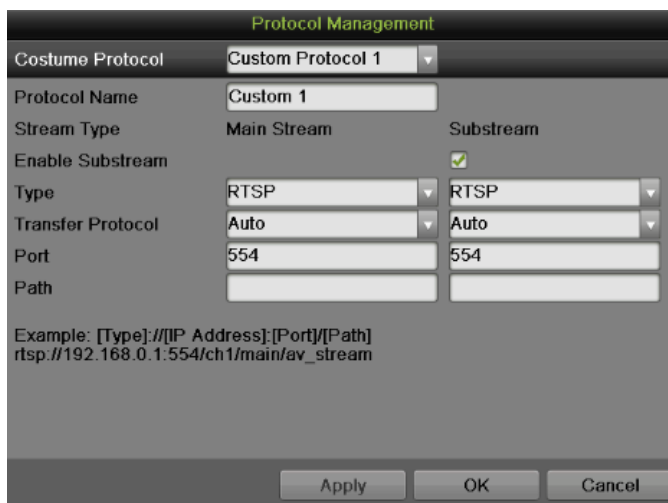

Figure 154 Protocol Management Settings Menu
7. Click Protocol to pop up a Protocol Management box, as shown in **Figure 154**, to edit the protocol parameters.